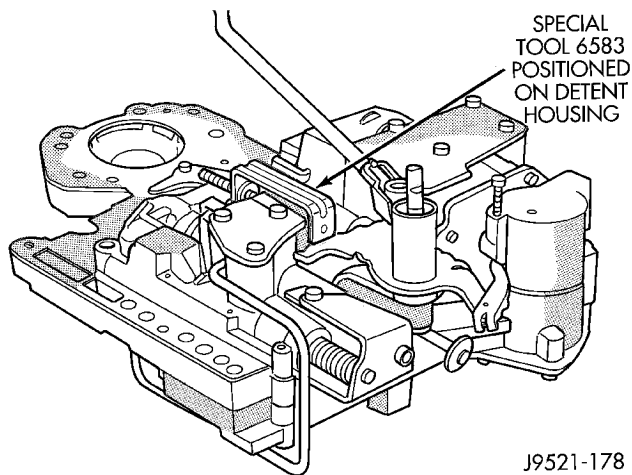
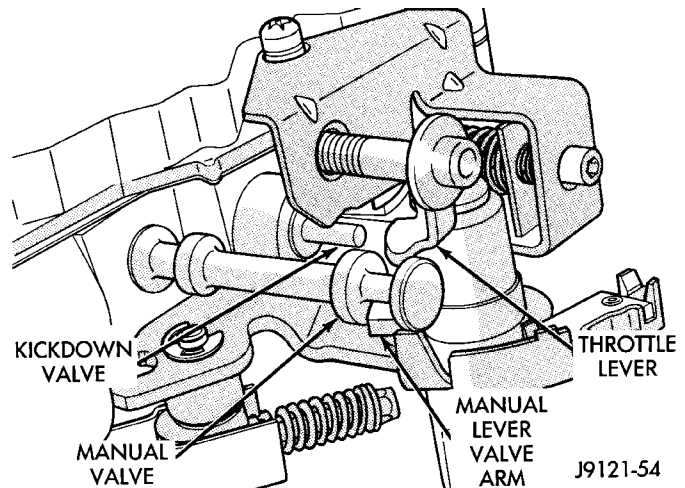

Fig. 91 Detent Ball Spring
Fig. 92 Manual And Throttle Lever Alignment
- (1) Install boost valve, valve spring, retainer and cover plate. Tighten cover plate screws to 4 N·m (35 in. lbs.) torque.
- (2) Insert manual lever detent spring in upper housing.
- (3) Position detent ball on end of spring. Then hold detent ball and spring in detent housing with Retainer Tool 6583 (Fig. 91).
- (4) Install throttle lever in upper housing. Then install manual lever over throttle lever and start manual lever into housing.
- (5) Align manual lever with detent ball and manual valve. Hold throttle lever upward. Then press down on manual lever until fully seated. Remove detent ball retainer tool after lever is seated.
- (6) Then install manual lever seal, washer and E-clip.
- (7) Verify that throttle lever is aligned with end of kickdown valve stem and that manual lever arm is engaged in manual valve (Fig. 92).
- (8) Position line pressure adjusting screw in adjusting screw bracket.
- (9) Install spring on end of line pressure regulator valve.
- (10) Install switch valve spring on tang at end of adjusting screw bracket.
- (11) Install manual valve.
- (12) Install throttle valve and spring.
- (13) Install kickdown valve and detent.
- (14) Install pressure regulator valve.
- (15) Install switch valve.
- (16) Position adjusting screw bracket on valve body. Align valve springs and press bracket into place. Install short, upper bracket screws first and long bottom screw last. Verify that valve springs and bracket are properly aligned. Then tighten all three bracket screws to 4 N·m (35 in. lbs.) torque.